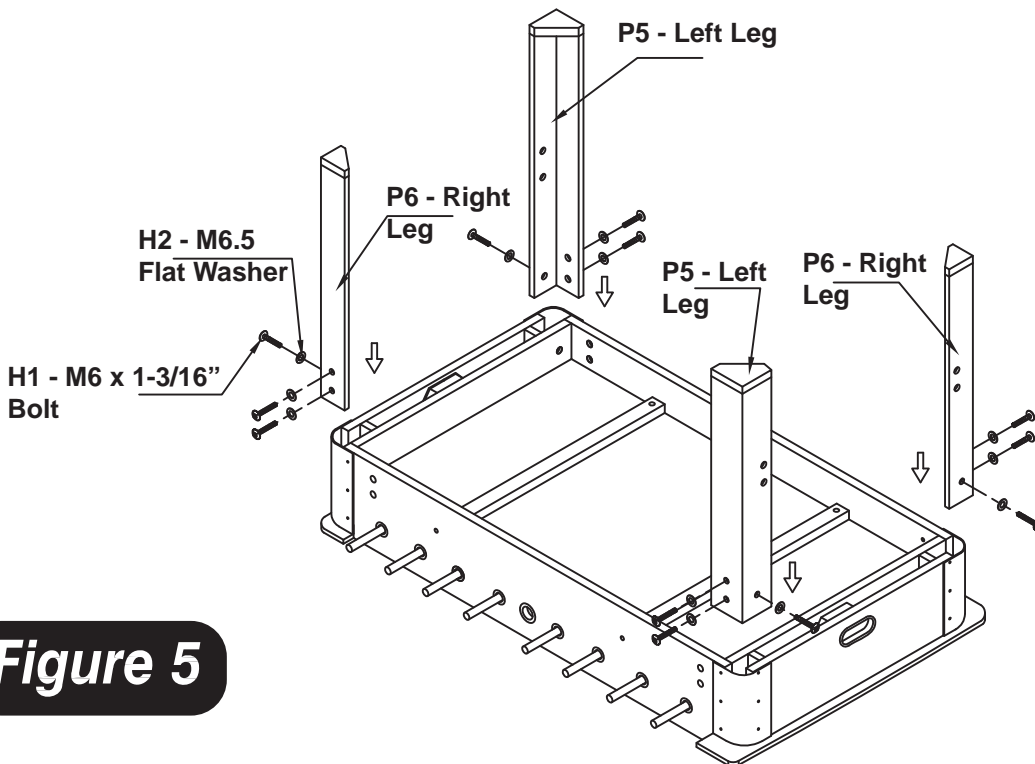

Figure 5
10. Attach the Left Leg **P5** and Right Leg **P6** to the cabinet using Leg Bolts **H1** and Washer **H2** as shown in **FIGURE 5**.